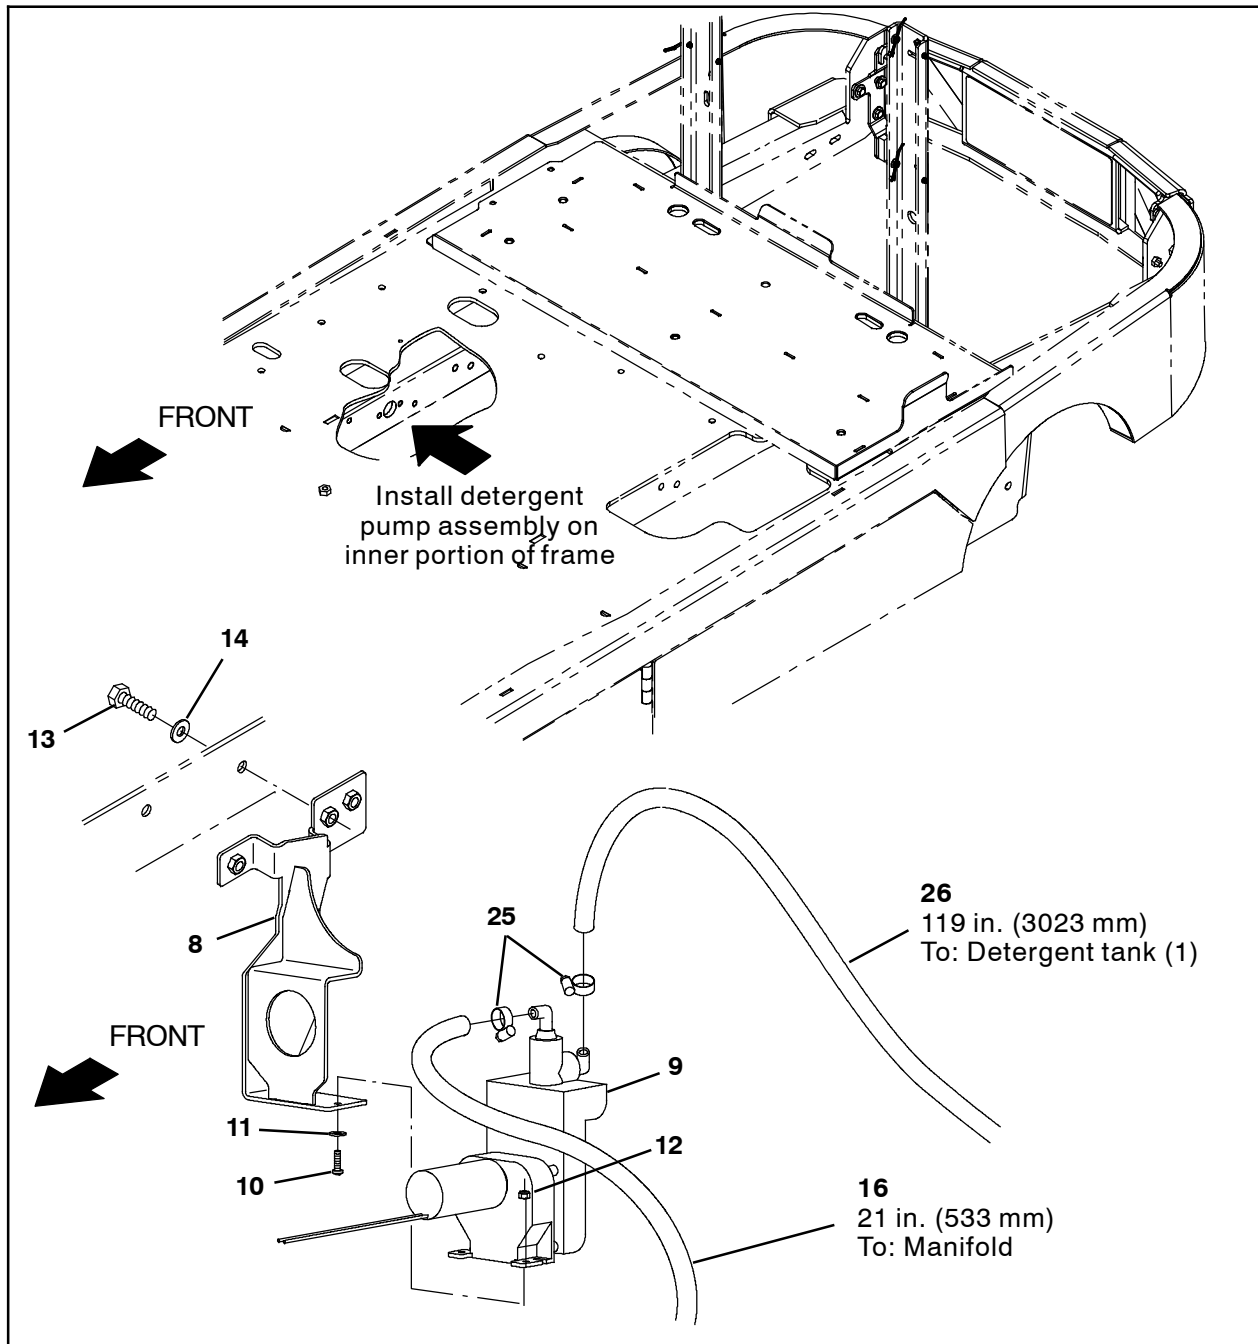
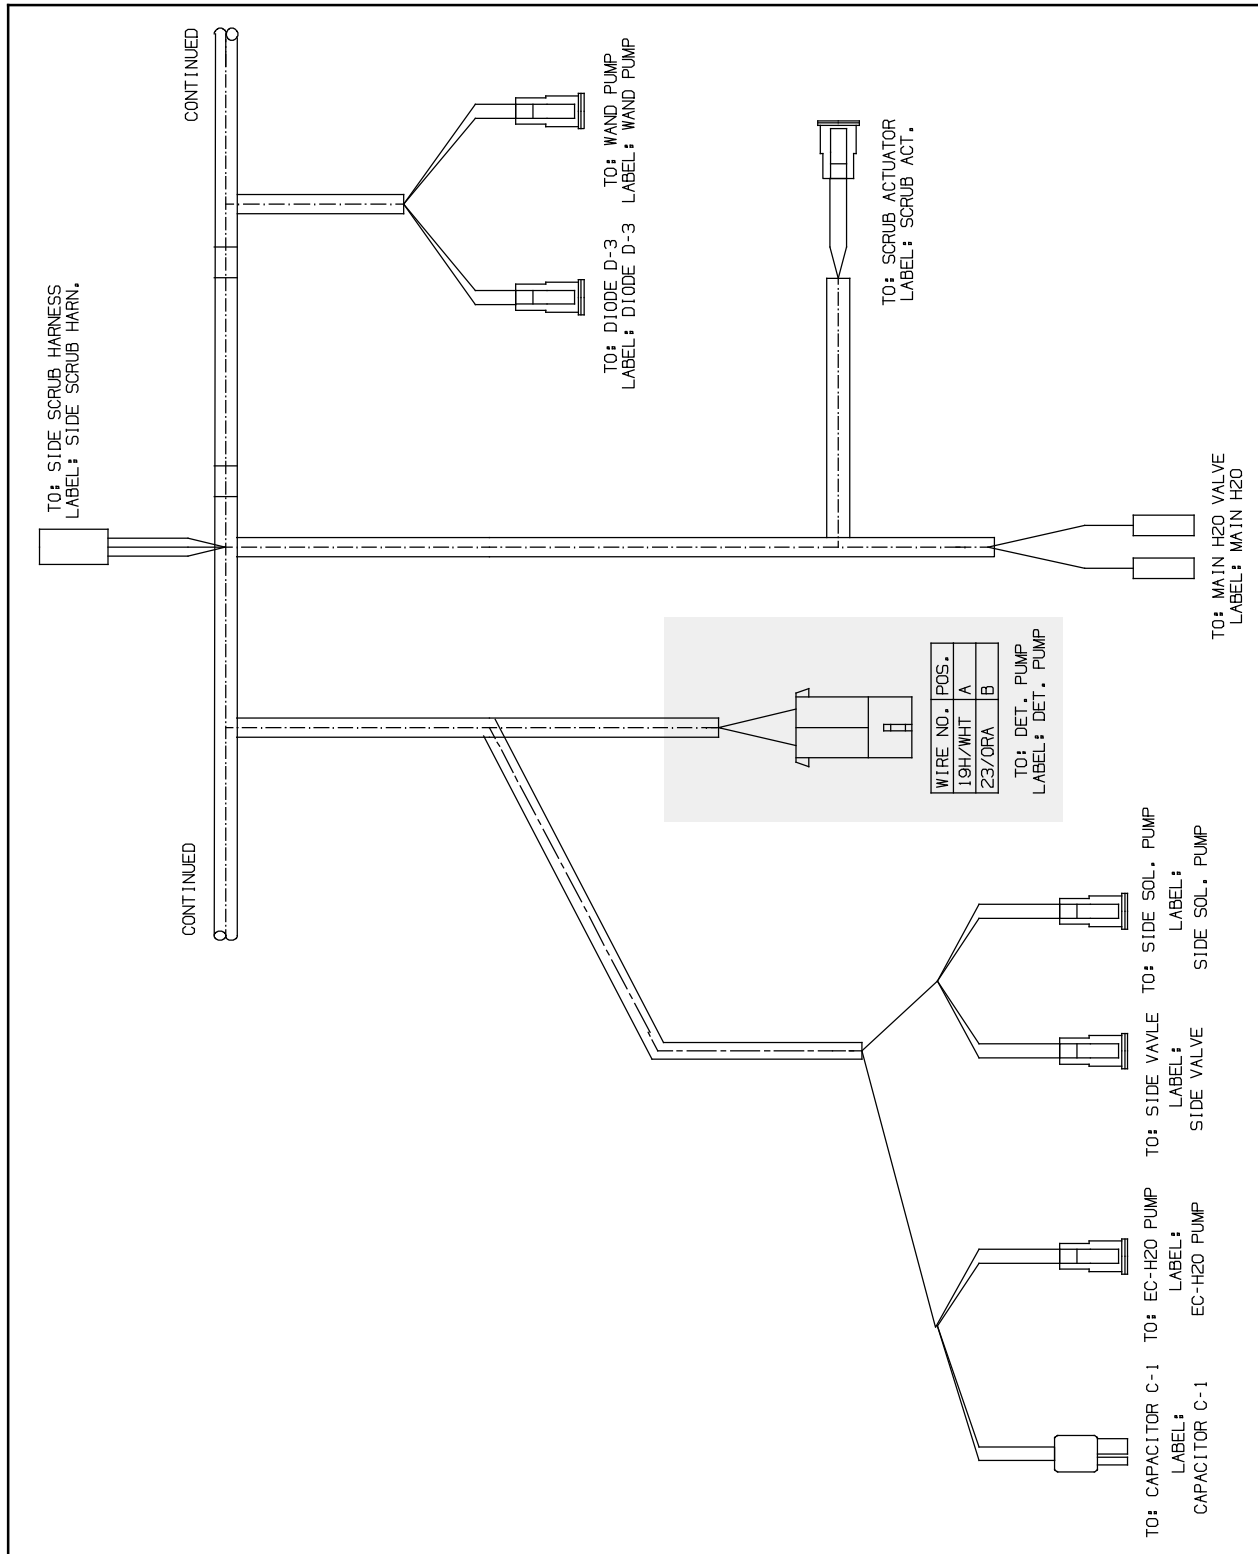
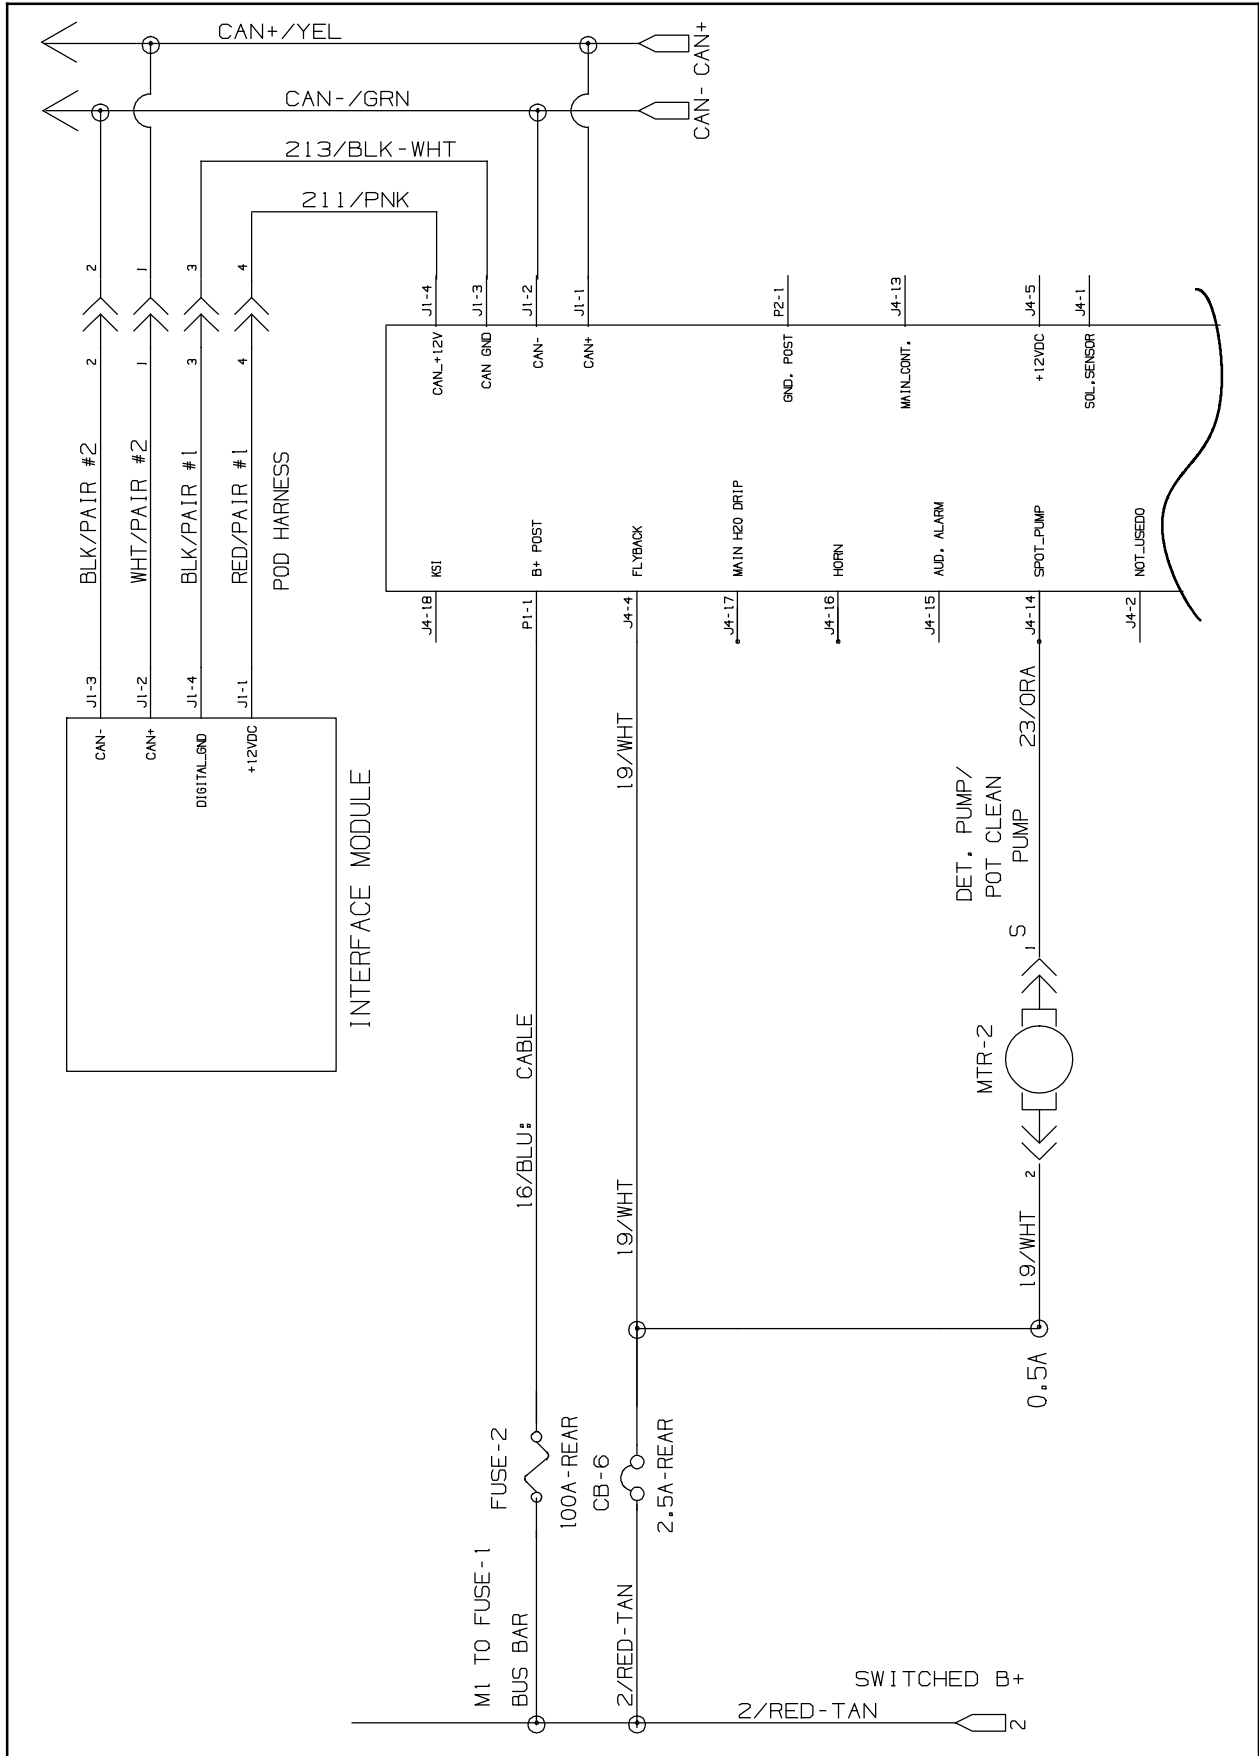

FIG. 1
FIG. 4
FIG. 5
1. Use two M4 pan screws (10), two flat washers (11), and two M4 hex nuts (12) to install the detergent pump (9) onto the pump bracket (8). (Fig. 1)
2. Use a hose clamp (25) to connect the 21 in. (533 mm) PVC hose (16) and the 119 in. (3023 mm) PVC hose (26) to the detergent pump (9). (Fig. 1)
3. Use two M8 hex screws (13) and two flat washers (14) to install the detergent pump assembly assembled in the previous several steps onto the frame of the machine. (Fig. 1)
4. Connect the main wire harness to the detergent pump (9). (Fig. 1 / Fig. 4 / Fig. 5)
8. Route the 119 in. (3023 mm) PVC hose (26) already installed on the detergent pump to the back of the machine. (Fig. 1)